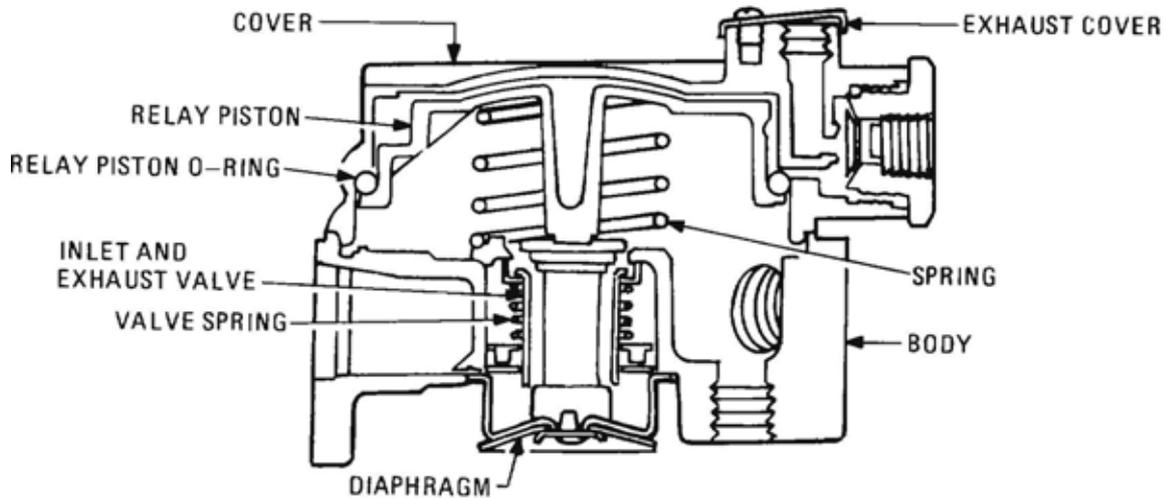

Figure 111 Sectional View of Relay Valve
**160.** The relay valve is used to operate the brakes on the rear axles and is operated by the brake treadle valve. It delivers the same air pressure to the brake actuators as is being delivered to the relay valve by the brake treadle valve. Because the relay valve has a direct air supply, it operates as a high capacity remote controlled brake valve (Figure 111).